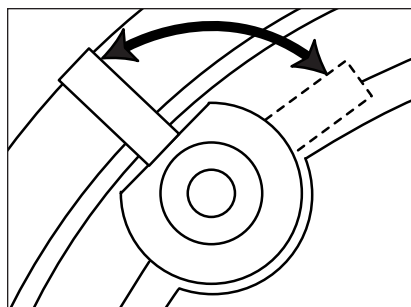

Figure 17 Tightening the mounting "dogs"
6. The DS6.3, DS6.5 and DS6.7 feature a separate frame assembly which installs with four clamps or mounting "dogs" which hold the frame in place. The dogs are tightened via four front-baffle screws. Tighten the dogs by turning the screws clockwise. **DO NOT OVERTIGHTEN THESE SCREWS.** Over-tightening the clamps may make the grille difficult to install. (**See Figure 17**).